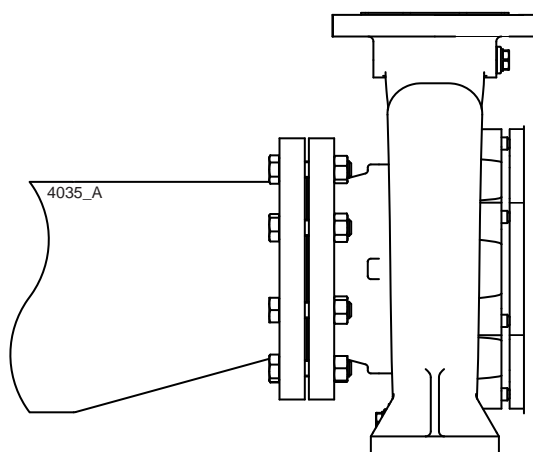

Figure 11: Eccentric reducer to suction flange.
- The passage of the suction pipe must be amply dimensioned. This pipe should be as short as possible and run towards the pump in such a way that no air pockets can arise. If this is not possible, a venting facility should be provided at the highest point of the pipe. If the inside diameter of the suction pipe is larger than the suction connection of the pump, an eccentric reducer should be applied to prevent air pockets and whirls. See figure 11.